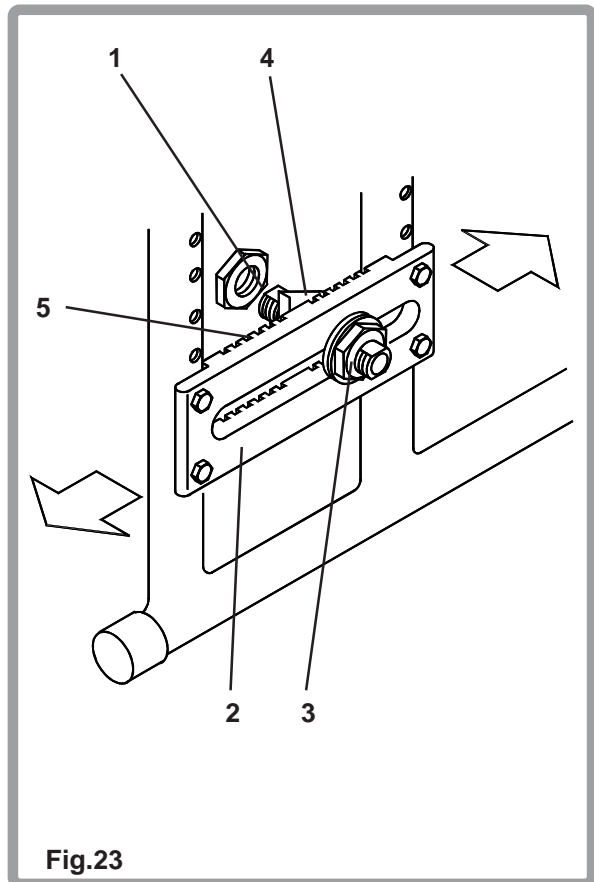

Fig. 23
The centre of gravity (Fig. 23) is adjusted by moving the axle sleeve (1) backwards or forwards on the indexed axle plate (2). To move the axle sleeve under the outer 28mm A/F retaining nut (3) sufficiently to allow the locking washer (4) and the axle sleeve assembly to slide in the axle plate, find the desired index slot (5), and tighten the retaining nuts, to 81Nm torque.